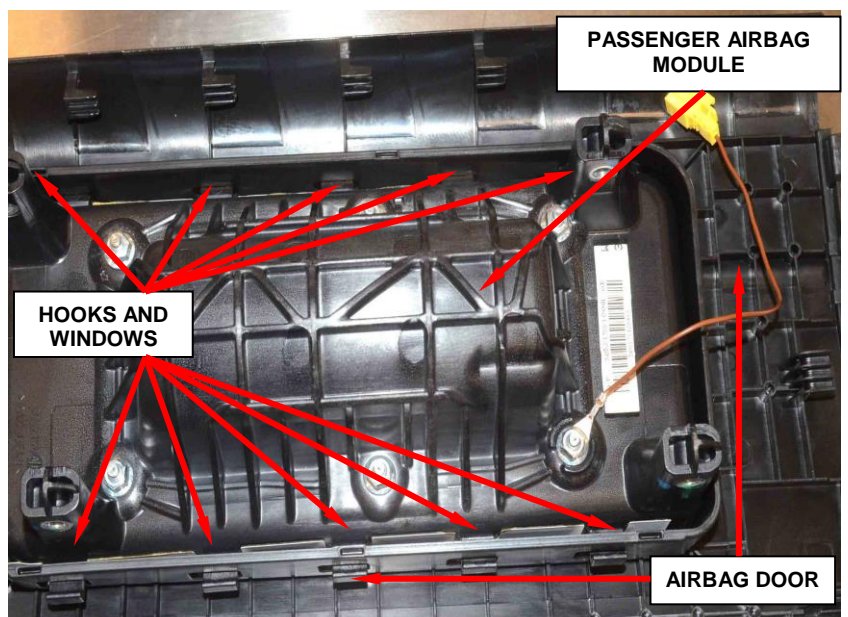

Figure 14 – Release Passenger Airbag Module
21. Release the passenger airbag module hooks from the airbag door windows (Figure 14).
23. Install the NEW passenger airbag module to the original airbag door cover by first inserting the bottom hooks into the windows (Figure 14).
24. Snap the remaining hooks on the opposite side into place (Figure 14).